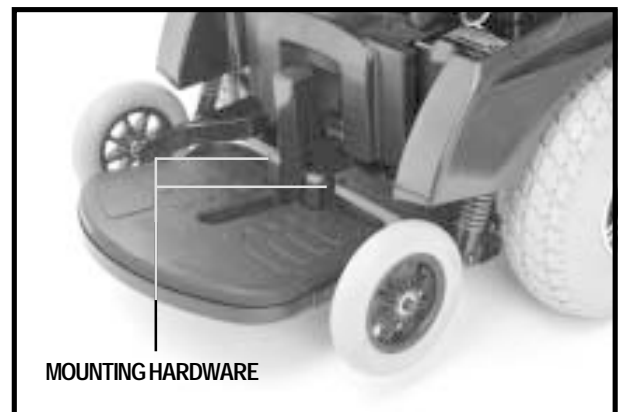

Figure 25. Foot Platform Height Adjustment
1. Remove the mounting hardware from the foot platform. See figure 25.